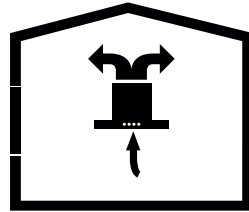

Fig. 5: Air Outlet with Carbon Filter
**i** Absorbed air is cleaned by the grease filters and an active carbon filter, and then it is transferred back to the kitchen. Fig.5